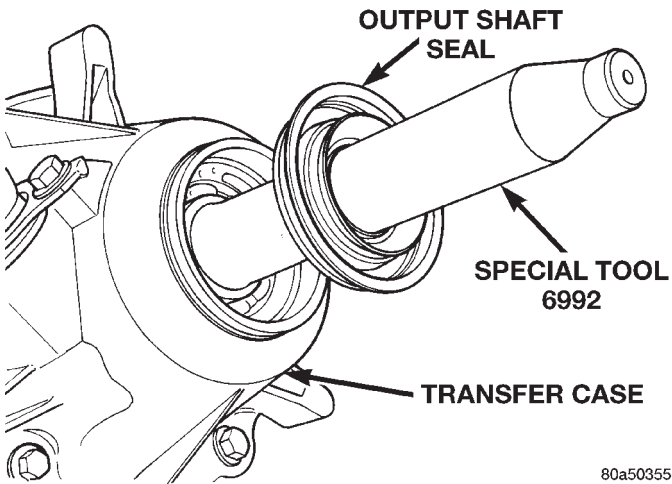

Fig. 77 Output Shaft Seal and Protector
- (1) Apply bead of Mopar® Sealer P/N 82300234, or Loctite™ Ultra Gray, to mating surface of rear retainer. Sealer bead should be a maximum of 3/16 inch.
- (2) Install rear retainer on rear case. Tighten retainer bolts to 20–27 N·m (15–20 ft. lbs.) torque.
- (3) Install rear bearing I.D. retaining ring and spacer on output shaft.
- (4) Apply liberal quantity of petroleum jelly to new rear seal and to output shaft. Petroleum jelly is needed to protect seal lips during installation.
- (5) Slide seal onto Seal Protector 6992 (Fig. 77). Slide seal protector and seal onto output shaft.